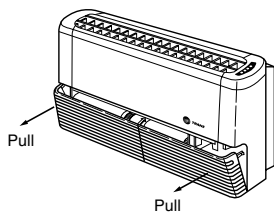

Figure 6
5. To gain access to the electrical terminals, the drain and the water piping, pull the return grille forward (Figure 6).